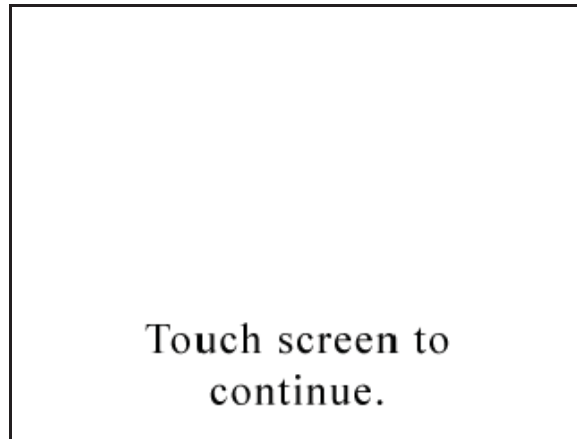

Figure 6-17 Successful Calibration Verify
5. If the alignment process is successful, Figure 6-17 screen appears then the Main screen returns.